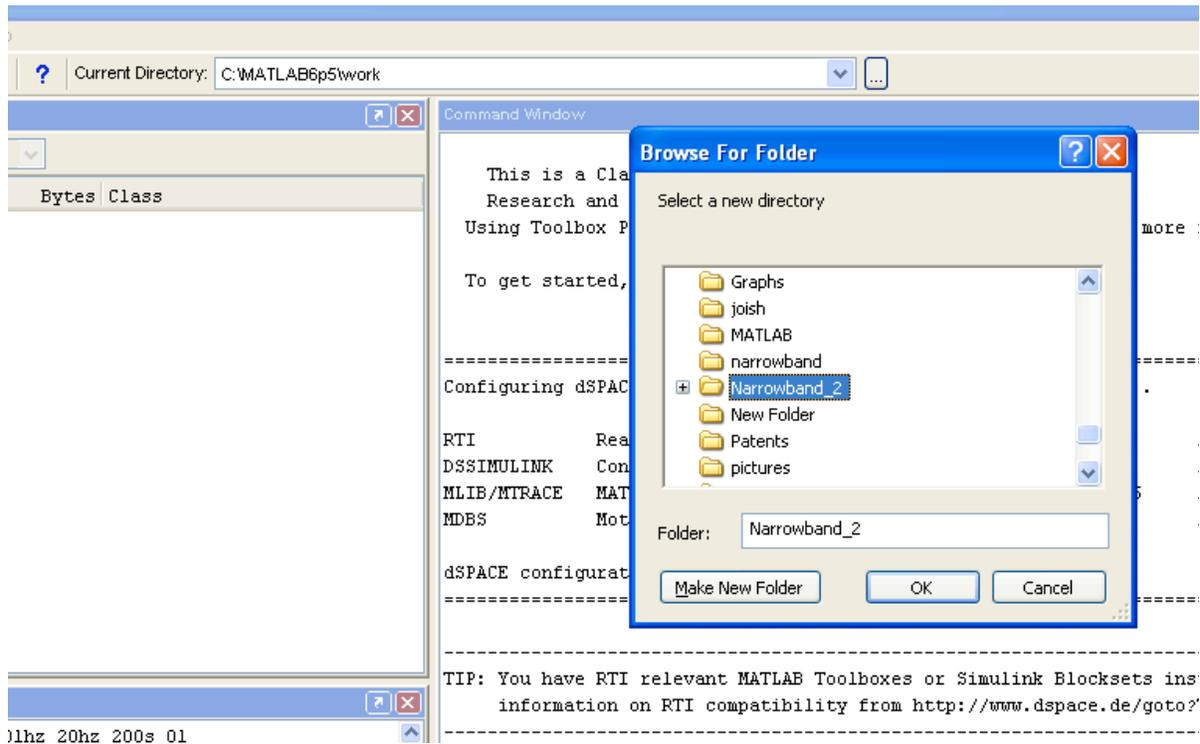

Figure 4-27: Screenshot of the “Current Directory” menu
- 3) Make sure the current directory is set to the correct folder containing the Simulink files; this is where data will be saved from dSpace. See Figure 4-27.
- 4) To change the directory, press the icon that has three dots located next to the “Current Directory:” scroll down menu and select correct folder. See Figure 4-27.